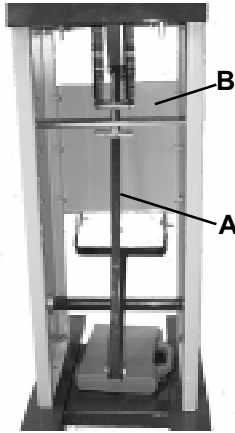

Figure 1
1. Remove the front **Panel (B)** and set it aside. (Figure 1)
6. Assemble the **Panel (B)** on the rear side of the machine using the screws from step 1. (Figure 1)